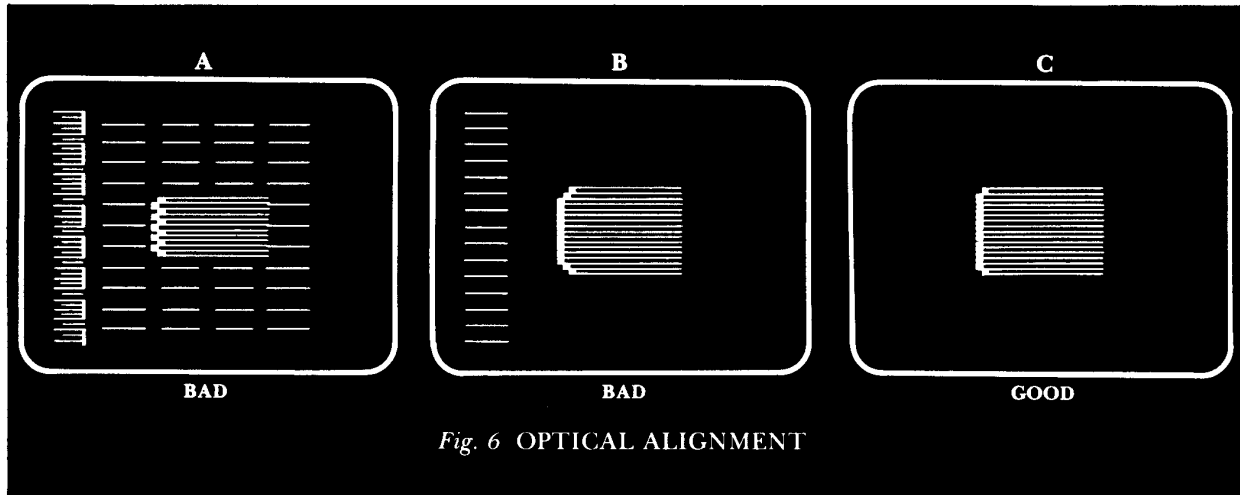

Fig. 6 OPTICAL ALIGNMENT
6. Aim the Gun to the enter of the screen, an orange rectangular pattern with a brown leading edge should be displayed (See Fig. 6-C).
7. Turn sensitivity control CCW until oscillation and an orange rectangular pattern are displayed (See Fig. 6-A). Now turn sensitivity control CW until oscillation diminishes just beyond this oscillation point (See Fig. 6-B), from this point turn sensitivity control CW approx. $\frac{1}{4}$ turn more. This should be the optimum setting.